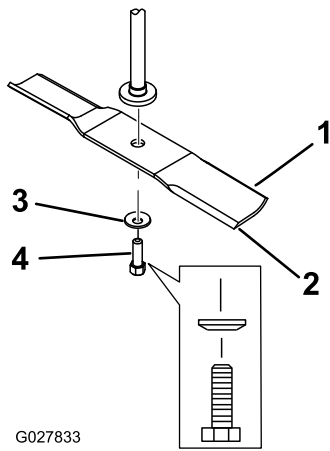

Figure 58
2. Remove the blade bolt, curved washer, and blade from the spindle shaft (Figure 58).
- Install the blade onto the spindle shaft (Figure 58).
- Install the curved washer (cupped side toward the blade) and the blade bolt (Figure 58).